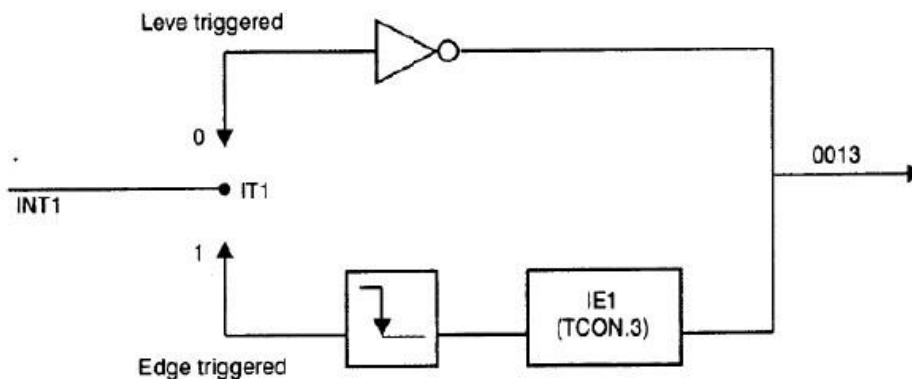

Figure 6: Activation of INT1
- The Fig.6. Shows the serial interrupt is invoked by TI or RI flags.